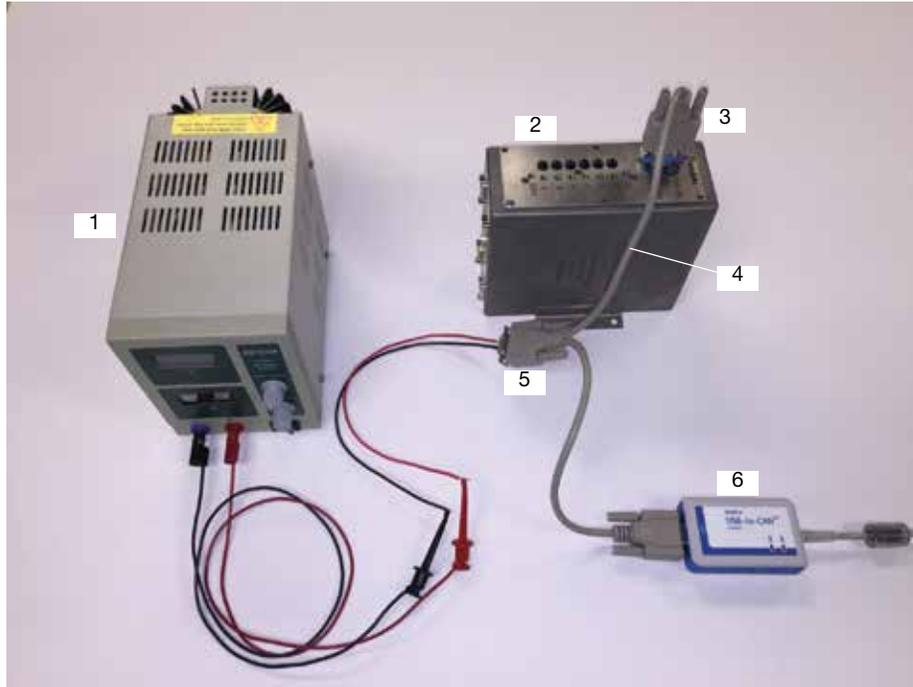

Fig 13 Power Cable Setup
The simplest option to provide power to the ICM is to use a commercially available “Y” cable. Any commercially available male DB9 to two female DB9 splitter cable, with a straight through pin out is acceptable. Use the extra branch of the cable to connect power to the ICM. See Fig 13 for an example setup.
The lead wires attached to Part 5, Fig 13, are connected to the following pins:
**Note:** In either case, the terminating resistor (Part 3, Fig 13) must be used to ensure proper signal integrity.